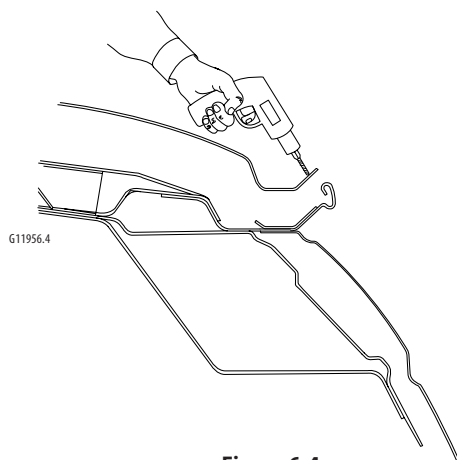

Figure 6-4:
2. Drill 8mm ($\frac{5}{16}$ inch) holes for plug welding in the service panel along the side-rail weld flanges (figure 6-4), the front windshield pinch-weld flanges, and the rear door frame opening pinch-weld flanges 62mm (2½ inches) apart.